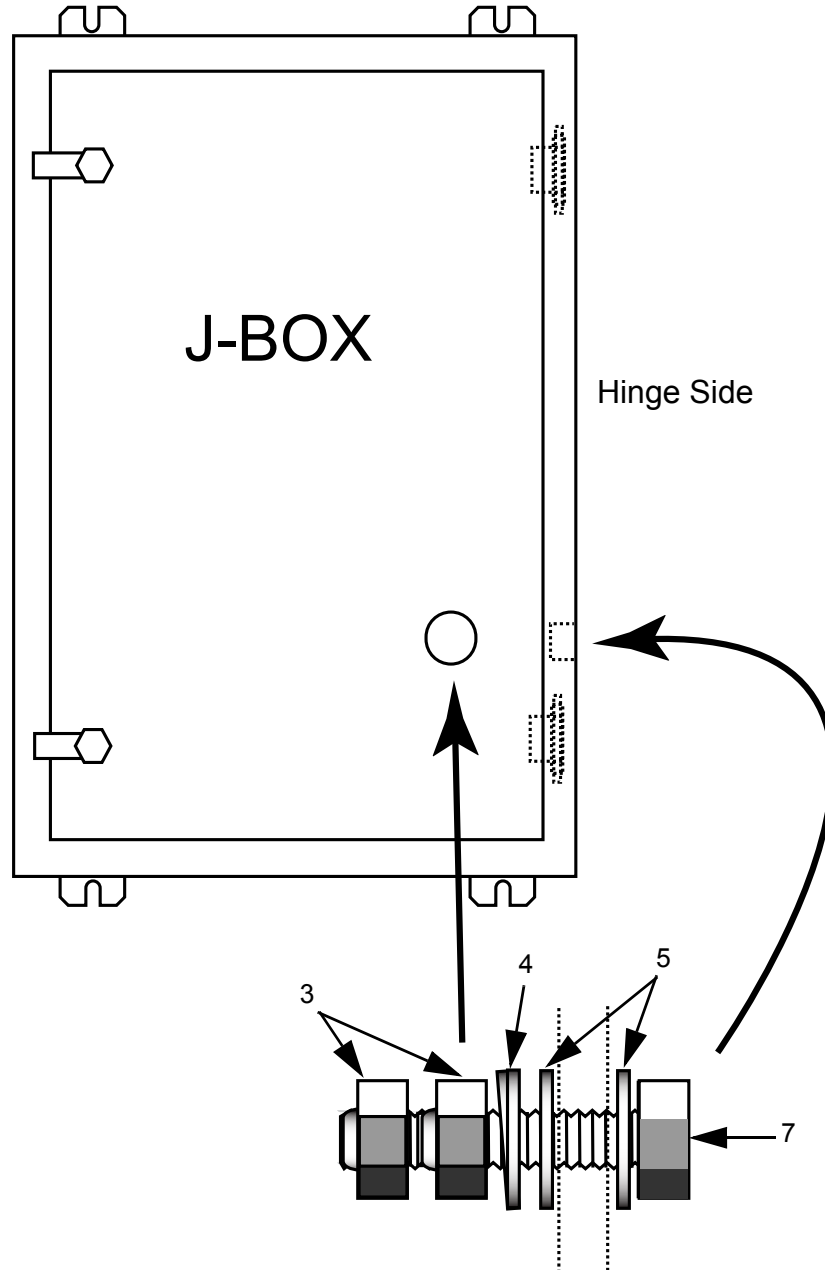
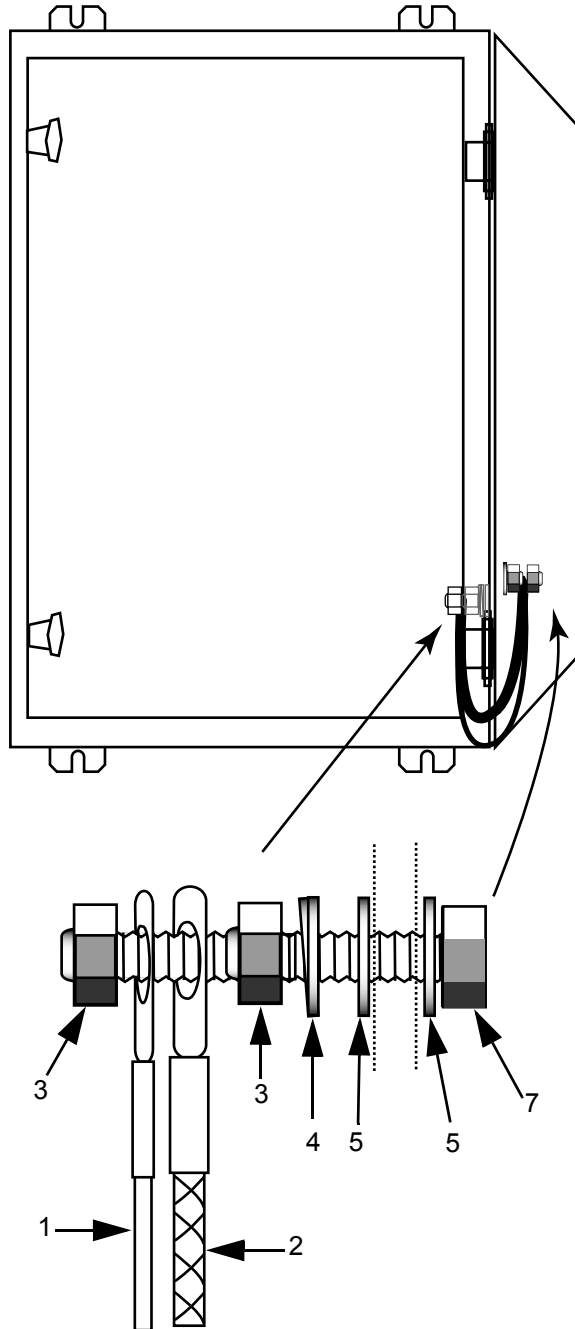

Figure 1: Grounding Stud Installation for AY21048-1
Figure 2: Cable Installation for AY21048-1
1. Using drill motor with drill-bit (item 06 - M10348), drill a 5/16" hole in the lower third of the door, **on the hinge side**. Drilling with low speed and high pressure is recommended. Use a drop cloth to catch shavings to protect equipment from damage. Refer to Figure 1 and Figure 2 for illustrative sketches; they are for illustration purposes only and are not drawn to scale.
2. Place self-sealing washer (item 05 - E18207) onto ¼–20x1 bolt (item 07 - HH-0250NC-0100-GR8) and insert bolt into the drilled hole from the exterior surface of the door.
3. Place one self-sealing washer (item 05 - E18207) on the bolt inside the door.
4. Place one external tooth ¼" lock washer (item 04 - LW-0250-ET-SS) on the bolt inside the door.
5. Use a ¼" locknut (item 03 - LN-0250NC-GR8) and wrench to secure the components to the installed bolt. This becomes the grounding stud for the door.
7. Place self-sealing washer (item 05 - E18207) onto ¼–20x1 bolt (item 07 - HH-0250NC-0100-GR8) and insert bolt into the drilled hole from the exterior surface of the side panel.
8. Place one self-sealing washer (item 05 - E18207) on the bolt inside the panel.
9. Place one external tooth ¼" lock washer (item 04 - LW-0250-ET-SS) on the bolt inside the panel.